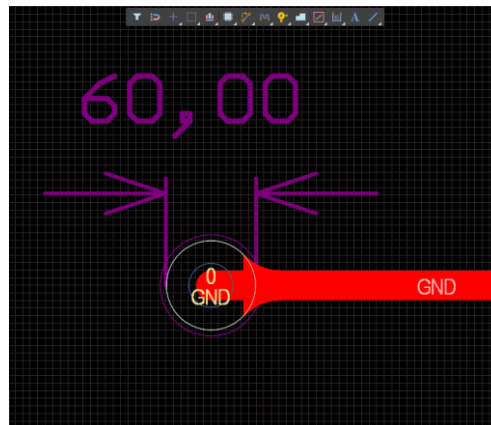

Figure 5. Draft Mode View
19. Setting objects into draft mode will change the appearance of an object from solid to outline view. See Figure 5 below.